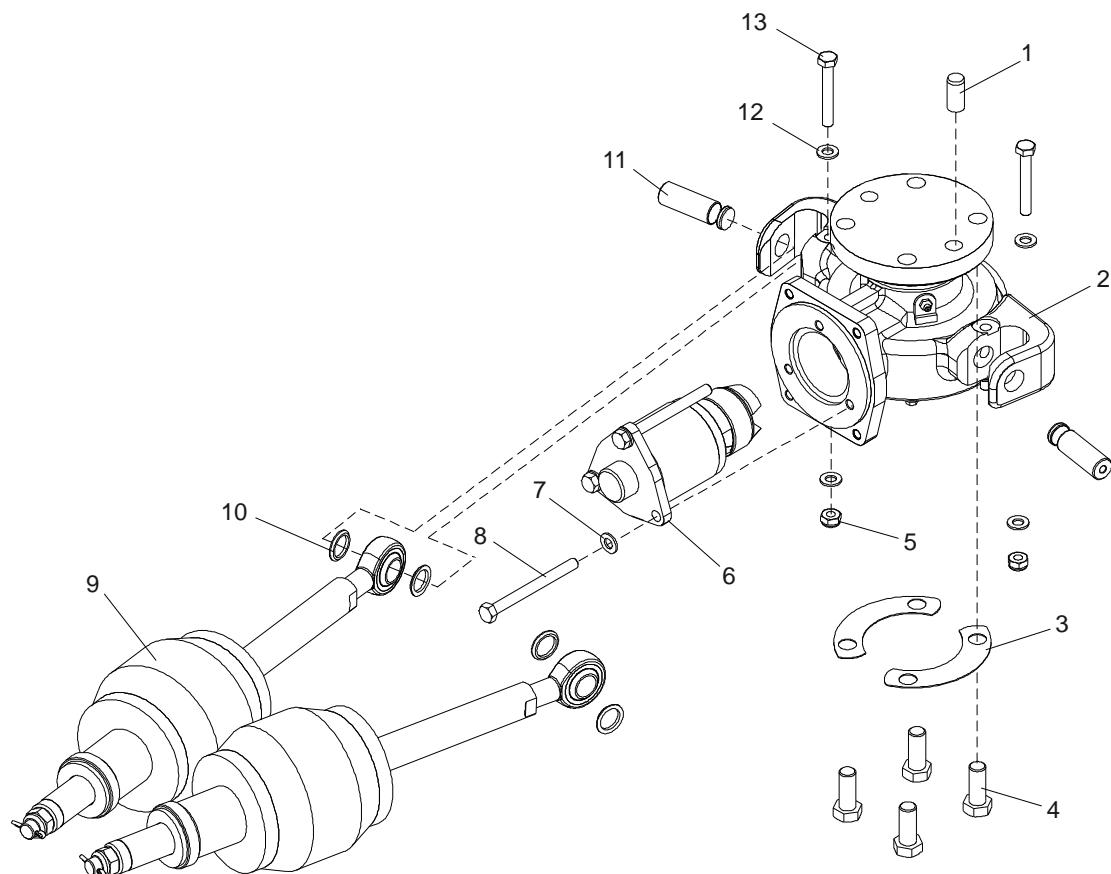

Figure 7-8: Replacement of Centering House
1. Lift front of the coupler with a lifting strap or similar to unload the spring assemblies (9). See Figure 7-8.
2. Remove the screws (13), washers (12), nuts (5), pins (11) and spacers (10).
3. Remove the spring assemblies (9) from the coupler.
4. Remove the centering house (2) by removing the screws (4), securing plates (3) and parallel pins (1).
5. Remove the screws (8), washers (7) and centering insert (6) from the centering house (2).
2. Fit the centering insert (6) to the centering house (2) and mount the washers (7) and screws (8). See Figure 7-8.
3. Fit the centering house (2) and parallel pins (1) to the coupler and mount the securing plates (3), screws (4).
4. Fit the spring assemblies (9) and mount the spacers (10), pins (11), nuts (5), washers (12) and screws (13).